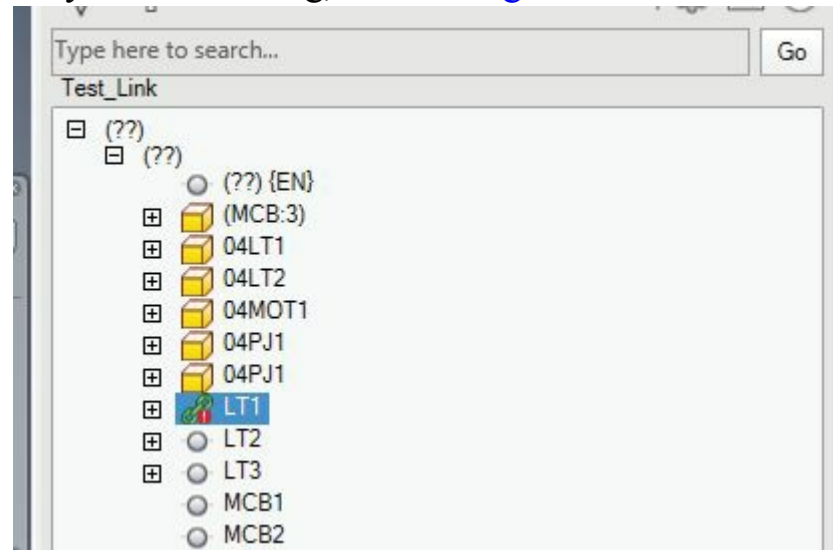

Figure-17. Linked light with differences
- Click on the component that you want to link with the selected electrical component. On selecting the Inventor component, both the components will be replaced with a common component with symbol of linking; refer to Figure-17.